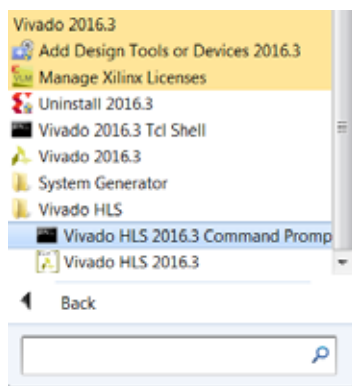

Figure 10-1: Vivado HLS Command Prompt
- On Windows use **Start > All Programs > Xilinx Design Tools > Vivado 2016.3 > Vivado HLS > Vivado HLS 2016.3 Command Prompt** (Figure 10-1).